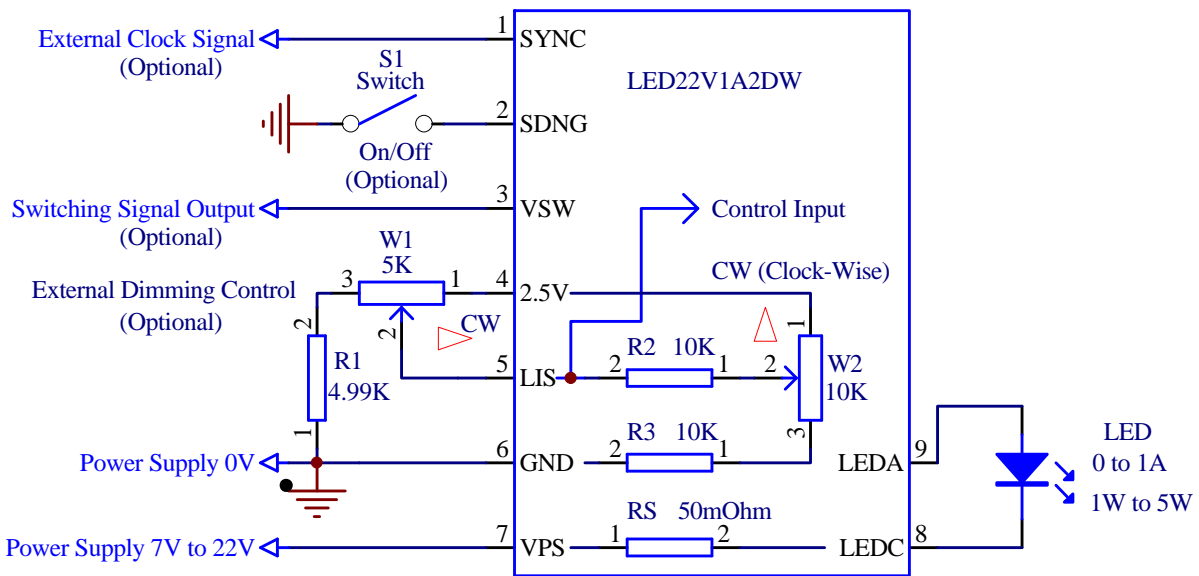
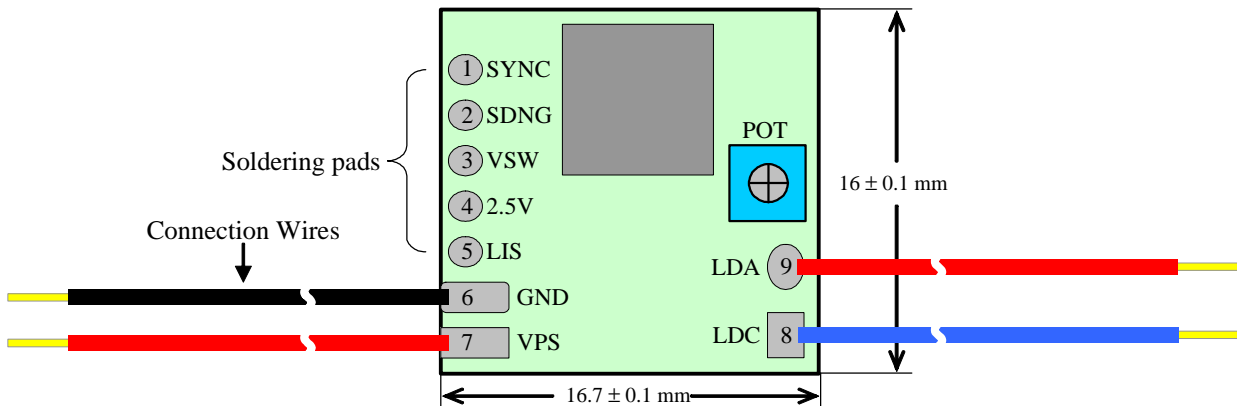

Figure 1 Typical Application of LED Controller LED22V1A2DW
Figure 2 Top View
- Pin 5, LIS** Analog input/output. It can be used to set the output LED current or indicate the voltage for setting the output LED current. The relationship between this voltage and the output current is: LED current = (LIS (V) – 1.25V)/1.25 (A). For example, when this voltage equals to 2V, the output LED current is (2 – 1.25)/1.25 = 0.6A. The internal circuit is shown in Figure 1.
Figure 1 shows the connection for typical applications. Please note that all the optional connections are not necessary for the controller to operate. The circuitries shown inside the controller boarder are the internal circuits embedded in the controller. Figure 2 shows the top view of the controllers and its connection wires, the POT, and the soldering pads for the optional connections.